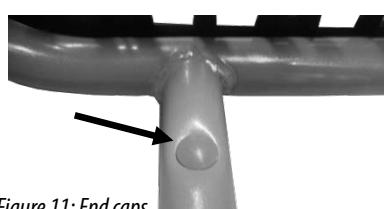

Figure 11: End caps
- Close the rear drilled holes in the pipes of the lamp mount using the end caps (Figure 11).